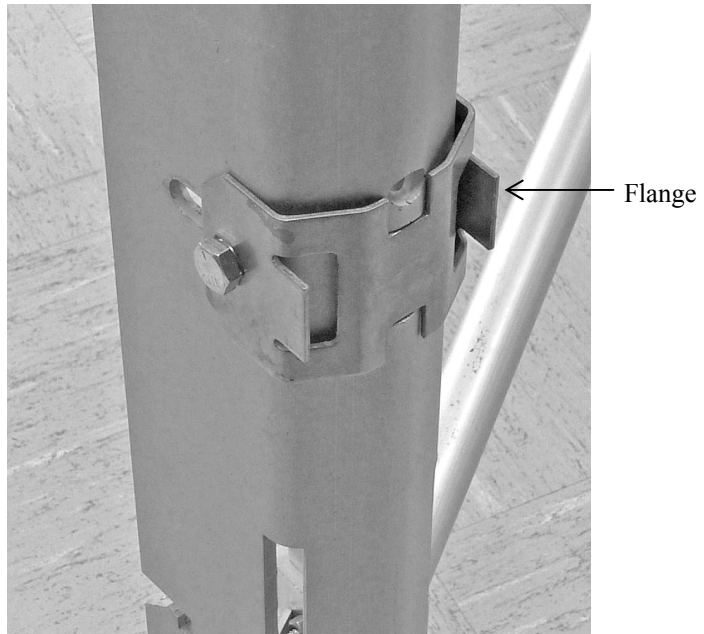
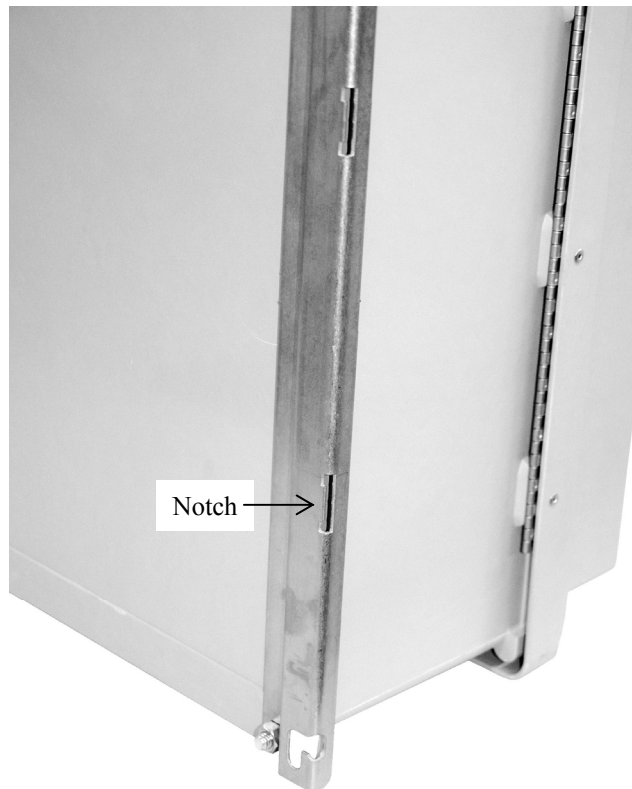

FIGURE 4-7. The 19124 bracket attached to a CM110 tripod
FIGURE 4-8. An ENC14/16 enclosure with a "-LM" bracket
An enclosure ordered with this option will be shipped with a bracket attached to each side of the enclosure and a U-bolt bracket. A 19124 bracket must also be attached to some tripods (see FIGURE 4-7).
**NOTE** For tripods requiring 19124 bracket, the bracket may not be pre-installed on the tripod at the factory. In this situation, the 19124 bracket and mounting hardware will be shipped with the tripod and will need to be installed as shown in FIGURE 4-7.
2. Place the flange of the tripod’s bracket into a notch in one of the enclosure’s brackets (see FIGURE 4-7, FIGURE 4-8, and FIGURE 4-10).